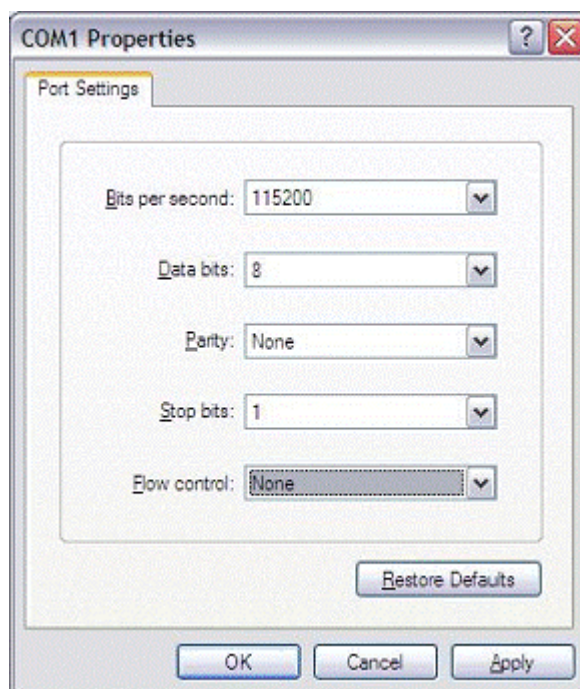

Figure 3.5 HyperTerminal Settings for Serial Console Setup
2. Open HyperTerminal on your Windows PC, and select the settings as shown in Figure 3.5.